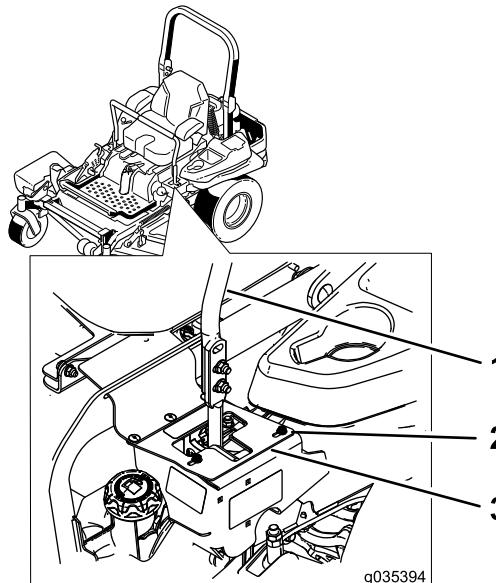

Figure 68
7. If it tracks to the left, loosen the bolts and adjust the right stop plate rearward on the right T-slot until the machine tracks straight (Figure 68).
8. Tighten the stop plate (Figure 68).
6. If it tracks to the right, loosen the bolts and adjust the left stop plate rearward on the left T-slot until the machine tracks straight (Figure 68).